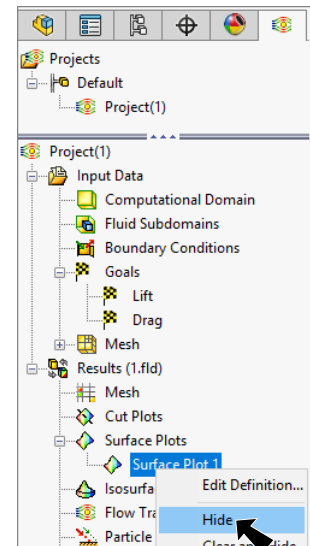

Fig. 21
Step 4. After viewing the Surface Plot, expand Results in Flow Simulation tree and expand Surface Plots. **Right click Surface Plots 1** and click **Hide**, **Fig. 21**.